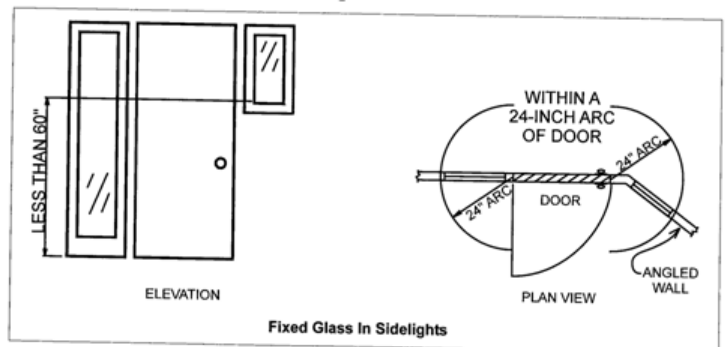

Figure 14-11
5. Figure 14-11, Fixed Glass in Sidelights, 2003 IRC Performing Residential Building Inspections, this handout pg. 2 of 5.